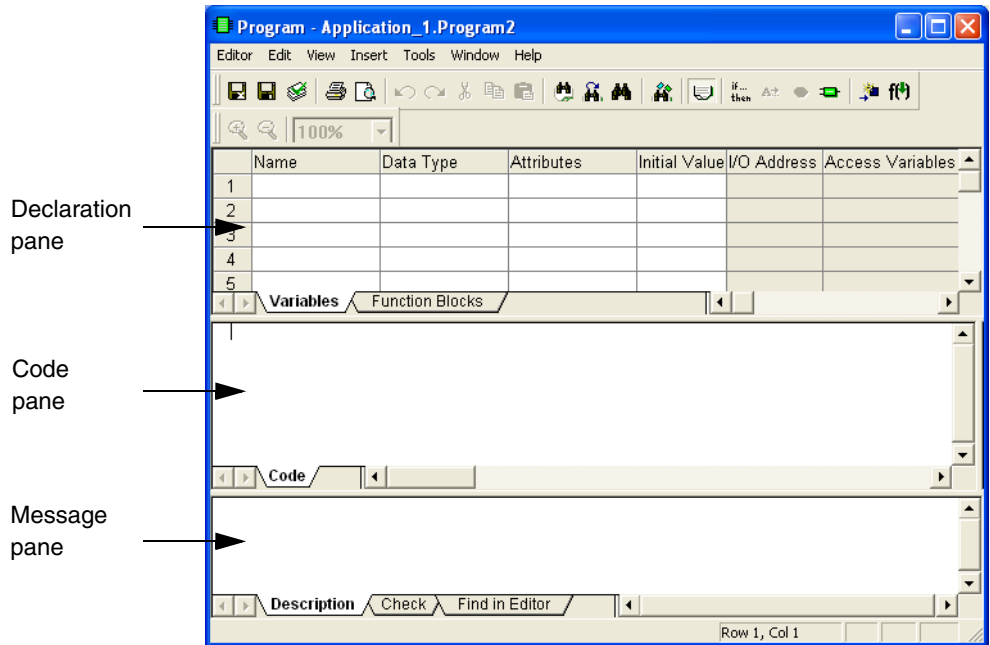

Figure 18. The editor for program **Program2**
2. The program editor is divided into three panes: the declaration pane, the code pane, and the message pane, see Figure 18.